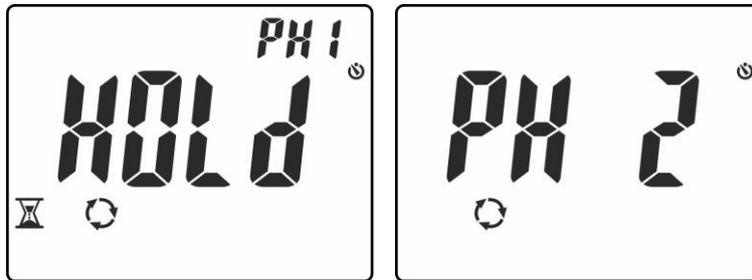

Fig. 14: Detecting phase L1 and waiting for phase L2
4. In conditions of correct voltage and frequency, the instrument shows message “**HOLD**”, symbols ⏳ and “PH1” and the buzzer sounds continuously, waiting for a stable voltage value on phase L1 to be detected (see Fig. 14 – left side).
5. **Do not remove the lead from phase L1** until message “**PH 2**” appears flashing on the display (see Fig. 14 – right side)